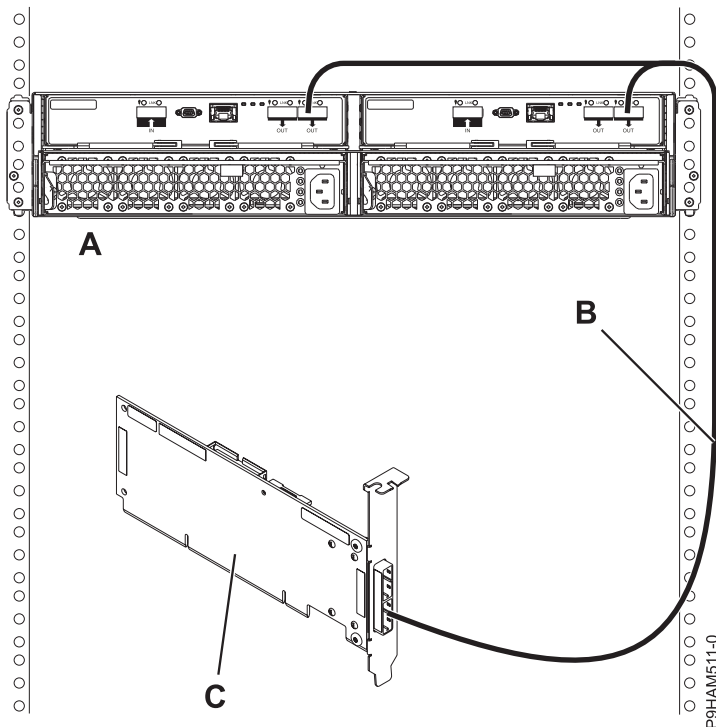

Figure 23. Mode 1 connection of one enclosure by using a YO cable to a single SAS adapter
14. Complete a mode 1 connection of one enclosure (**A**) by using a YO cable (**B**) to a single SAS adapter (**C**) as shown in Figure 23, and then continue with “Connecting cables, power cords, and installing covers” on page 28.